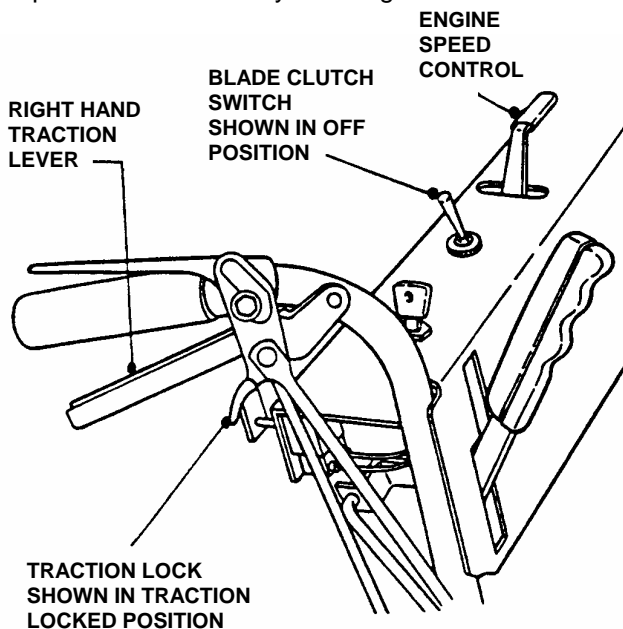

FIGURE 3.1
1. To **STOP** forward or reverse motion, firmly squeeze both Traction Levers towards the handle and hold. Using your index fingers, pull right and left Traction Locks back until both Traction Levers lock in Traction Locked position. See Figure 3.1.
5. Pull Blade Clutch Switch rearward to the **OFF** position. See Figure 3.1.
6. Move Engine Speed Control Lever to **SLOW** (turtle) position. See Figure 3.1.
7. **STOP ENGINE** by turning Key Switch to "Stop" position. Remove key. See Figure 3.1.